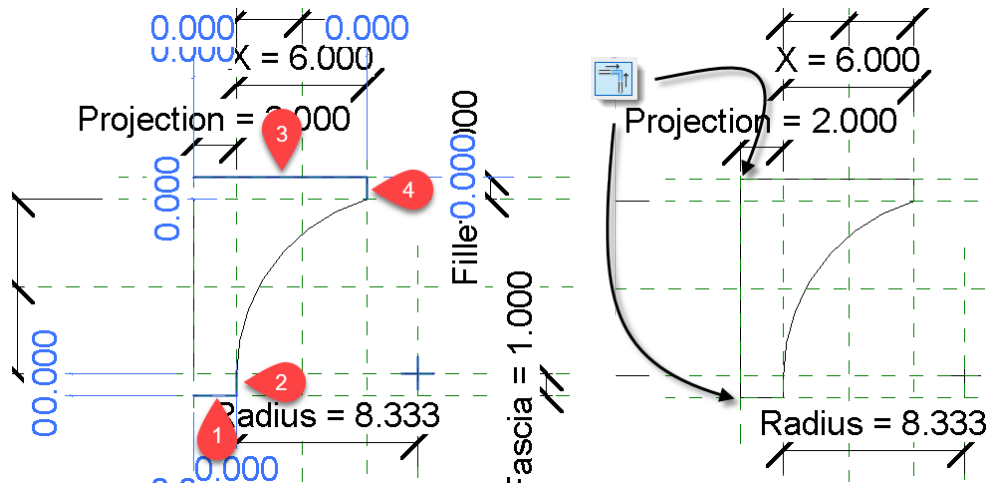

Figure 31—Add new lines, align lock and trim/extend the corners
7. Draw new horizontal and vertical lines aligned and locked to their respective reference planes as shown on the left side of Figure 31.
8. Use Trim/Extend to Corner to close up the profile shape. Align any element as required to remove any Automatic Sketch Dimensions (see the right side of Figure 31).